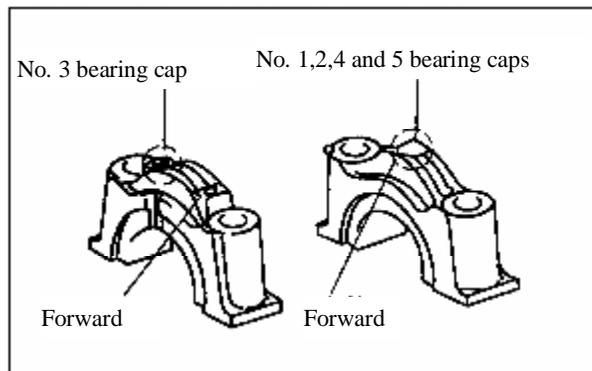

Figure 3-22 Marks on Main Bearing Cap
**3.2.3** The main bearing caps are not interchangeable, and their directions (front and rear) must be correct. In order to prevent misplacement or adverse installation, the main bearing cap is marked with sequence number and cast a “forward” arrow (see Figure 3-22).